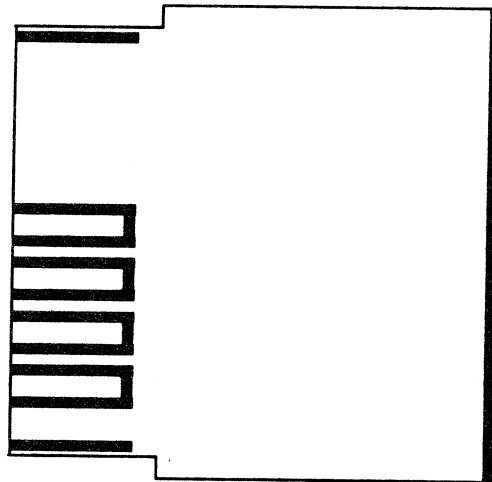

Figure C-12 Flip Chip
5. Remove the Flip Chip from the selected slot in the UNIBUS. Figure C-12 is a diagram of a Flip Chip (approximate size).